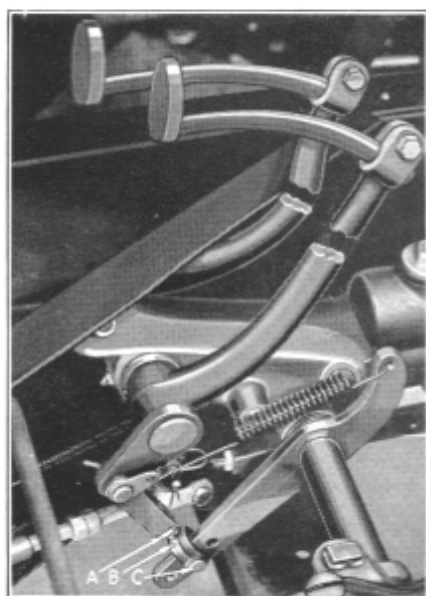
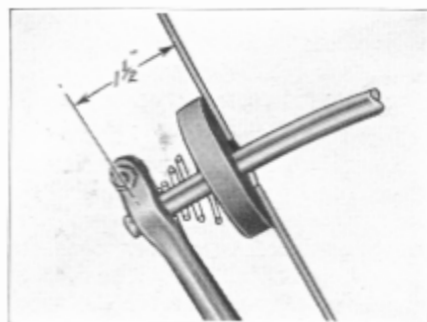

Figure 12
Figure 13
The clutch is self-adjusting; however, it is necessary to adjust the clutch pedal rod to prevent the pedal from "riding" the floor board. To adjust, loosen lock nut (A), Figure 12, remove clevis pin (C), and turn yoke (B) to shorten or lengthen the rod, as necessary, so that the pedal shank can be held in a position one and one-half inches from the floor board when the clutch is engaged, Figure 13. Replace clevis pin (C) and cotter pin. Tighten lock nut (A). The
A grease fitting is provided for lubrication of the pedal rod bushings, Figure 12. This point should be lubricated every 1,000 miles with a viscous chassis lubricant.